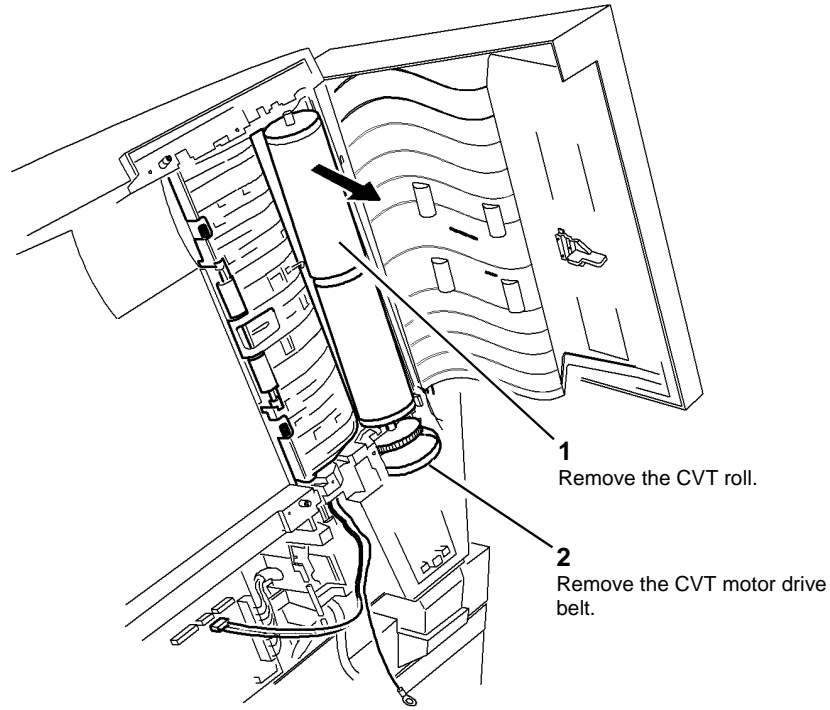

Figure 3 CVT roll
7. Release the front CVT roll bearing, PL 5.25 Item 4. Remove the CVT roll and CVT motor, drive belt, Figure 3.